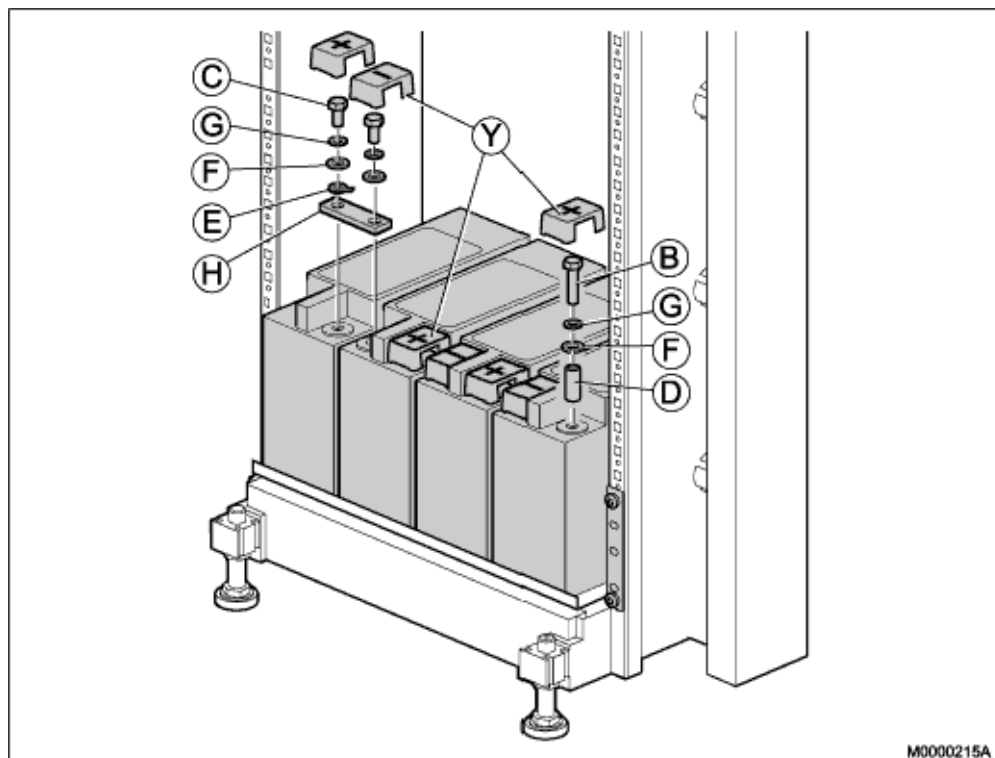
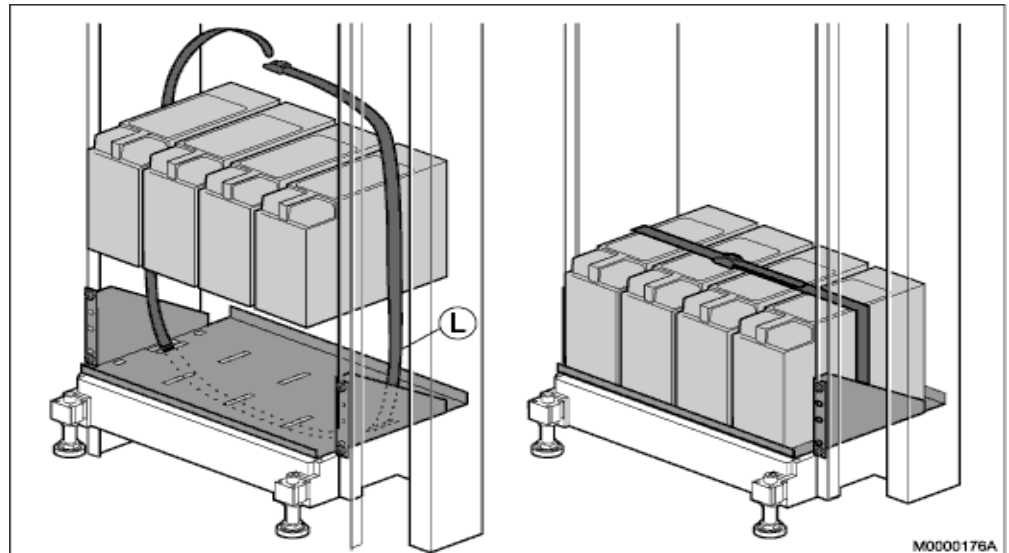

Figure 15: Installing the Batteries
Figure 16: Battery String Safety Strap
2. Place the safety strap through the slots in the battery shelf, see Figure 16: Battery String Safety Strap on page 23.
3. Place the batteries on the shelf, see Figure 15: Installing the Batteries on page 22. Make sure the front side of the batteries with the contact poles and the labels is facing the cabinet front.
5. Connect the batteries to each other by applying the connector bridge (H), plain washer (F), spring washer (G), by using the pole screws (C) from the batteries.
6. For measuring 12, 24, and 36 V DC insert three contact washers with flat lug terminals (E) on top of each connector bridge.
8. Apply the metal tube spacer (D), plain washer (F), spring washer (G), and 25-mm screw (B) on the plus pole of the rightmost battery block (do not tighten).
9. Apply the metal tube spacer (D), plain washer (F), spring washer (G), and 25-mm screw (B) on the minus pole of the leftmost battery block (do not tighten).
10. Position insulating pole covers (Y) on each of the four batteries, and press them down.
11. Place the strapping belt (L) around the batteries and tighten the strap, see Figure 16: Battery String Safety Strap on page 23.